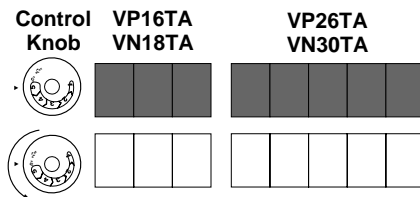

Figure 25 - Burner Patterns
8. Turn thermostat control knob counter-clockwise ↻ to the desired heating level. For models, VP16TA, VN18TA, VP26TA, and VN30TA, the main burner should light. Set control knob to any heat level between 1 and 5 (see Figure 25). For infrastat models, the plaque directly above the pilot should light.